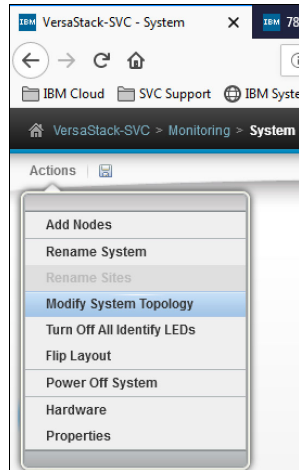

Figure 4-34 Modifying the system topology to configure HyperSwap
1. To set up the HyperSwap configuration, click **Monitoring** → **System**, and then select **Actions** → **Modify System Topology**, as shown in Figure 4-34.